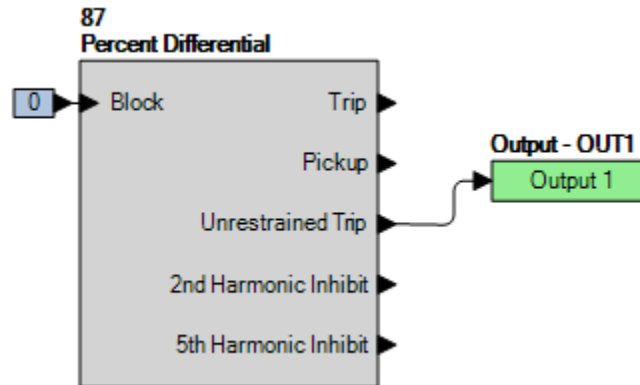

Figure 76-2. BESTlogicPlus Settings (87U)
Step 1: Use BESTCOMSP*lus* to verify the operational settings in Table 76-2 and logic in Figure 76-2. Reset all targets.
- Step 2: Prepare to monitor the unrestrained 87 element. Operation can be verified by monitoring OUT1 (see Figure 76-2).